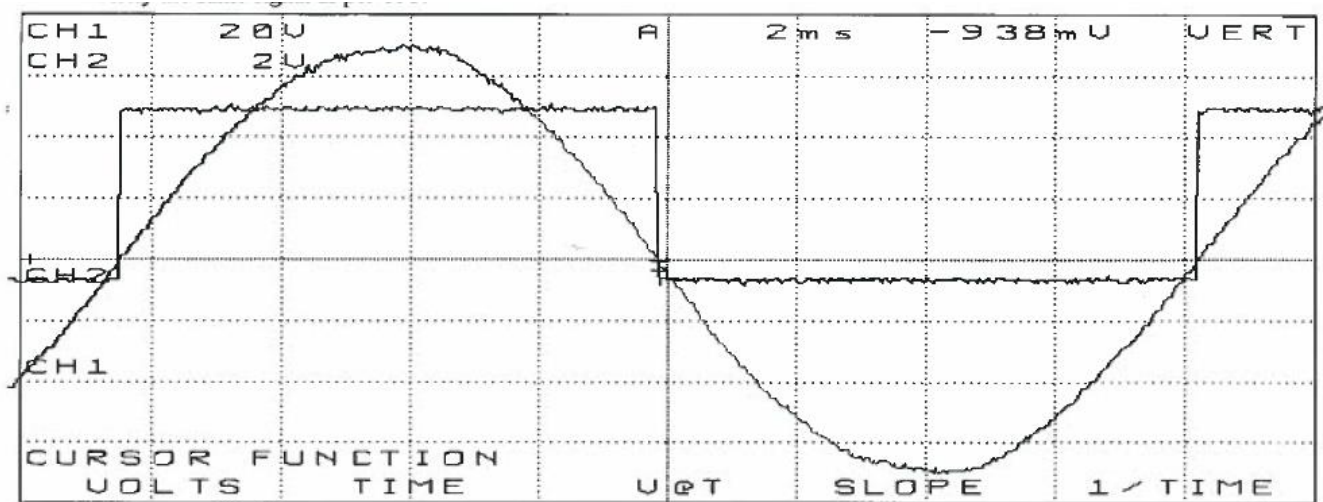

Figure 3
**6.2.6.1** Install jumper on CP45 and CP46 then apply isolated 115VAC between CP38 and CP41. Connect scope A to CP38 and scope B to TP5. Verify waveform below (Figure 3). Adjust R1 so the waveform crosses at zero. Move scope B to JF26 and verify the same signal as per TP5.